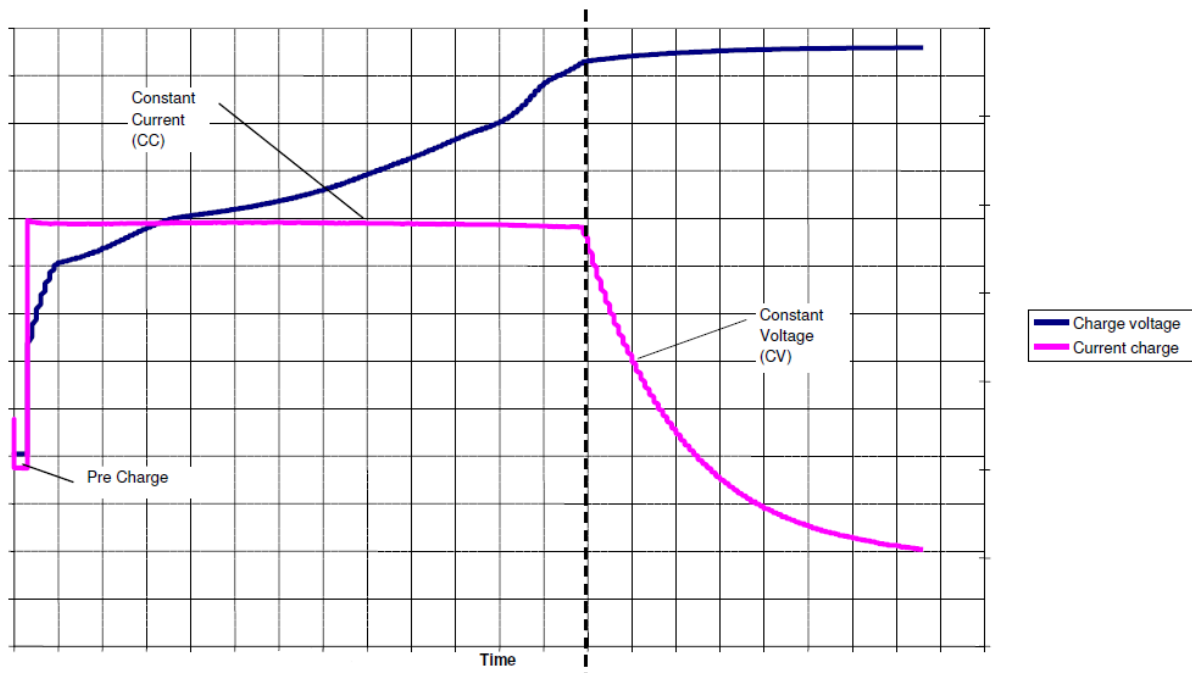

Fig 5. Constant Current - Constant Voltage charging method
- fast charge: If battery level is higher than 3.1V (i.e. enough for baseband to boot) and there is voltage on Vcharge for more than 10 ms, then OM12001 (ATOP) will switch to SW charge mode. SW will initiate a fast charge with Constant Current - Constant Voltage (CC-CV) method as described in Figure 5. It will stop when the current drawn on the charger falls below 50 mA or whenever overvoltage/overcurrent is detected or temperature is outside of allowed range (typically 0-50°C). Limiting and dynamic values can be found in Table 4 and Table 26